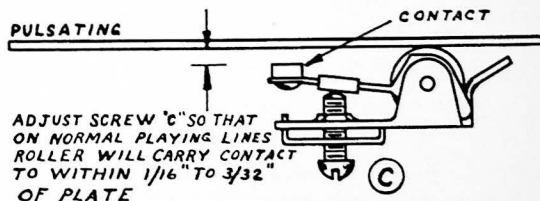

FIG. 8
Place a record on turntable and tone arm in playing position about halfway in on playing lines of the record. In this position the contact operated by the rubber roller on the trip arm should be carried to within  $\frac{1}{16}$  to  $\frac{3}{32}$  of an inch of the pulsating plate as the roller moves towards center of changer. (See Figure 8) If contact does not have this spacing as the roller moves and pulls contact up, then adjust screw (C) Figure 8 until correct spacing is obtained.